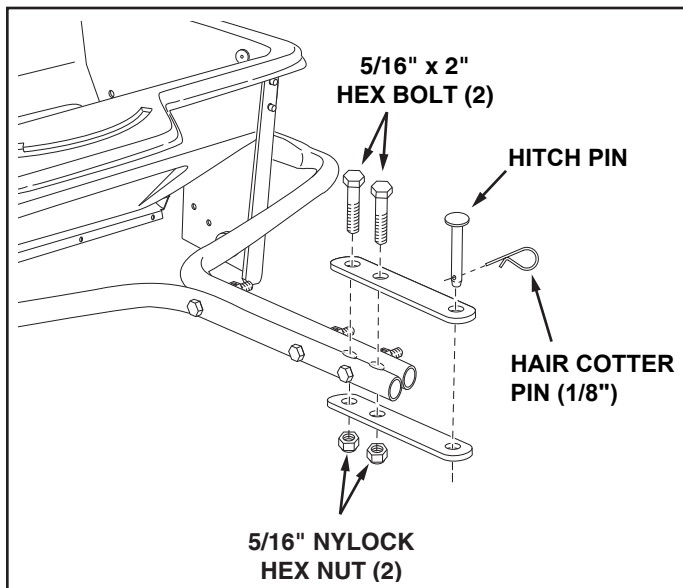

FIGURE 5
- Assemble the hitch brackets to the hitch tubes using two 5/16" x 2" hex bolts and 5/16" nylock hex nuts. **Do not tighten.** See figure 5.
- Assemble the hitch pin through the hitch brackets and secure with the hair cotter pin. See figure 5.